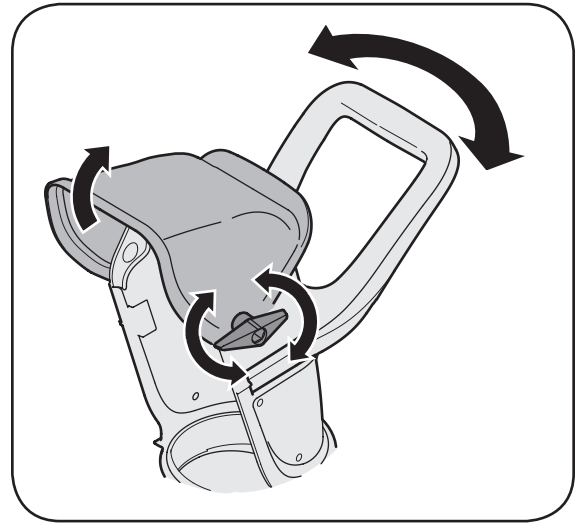

Figure 1
1. Loosen the chute knob on the upper chute(1) and pivot the upper chute upwards(2) as far as it will go. See Figure 1.
6. Tighten the chute knob on the upper chute making sure the flat washer and the carriage bolt are correctly positioned. Refer to Figure 1.